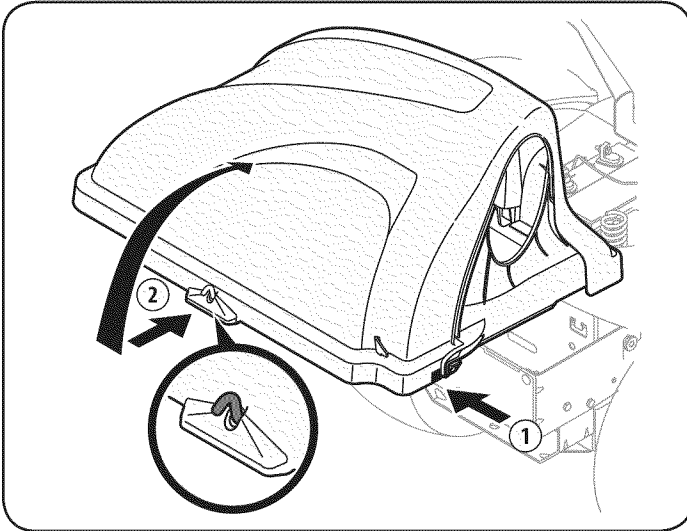

Figure 14
5. Open Hood by pushing in on the rear, right-side tab with your right hand, as seen in 1 of Figure 14, and lifting the cover with your left hand in the center rear of the bagger cover, 2.